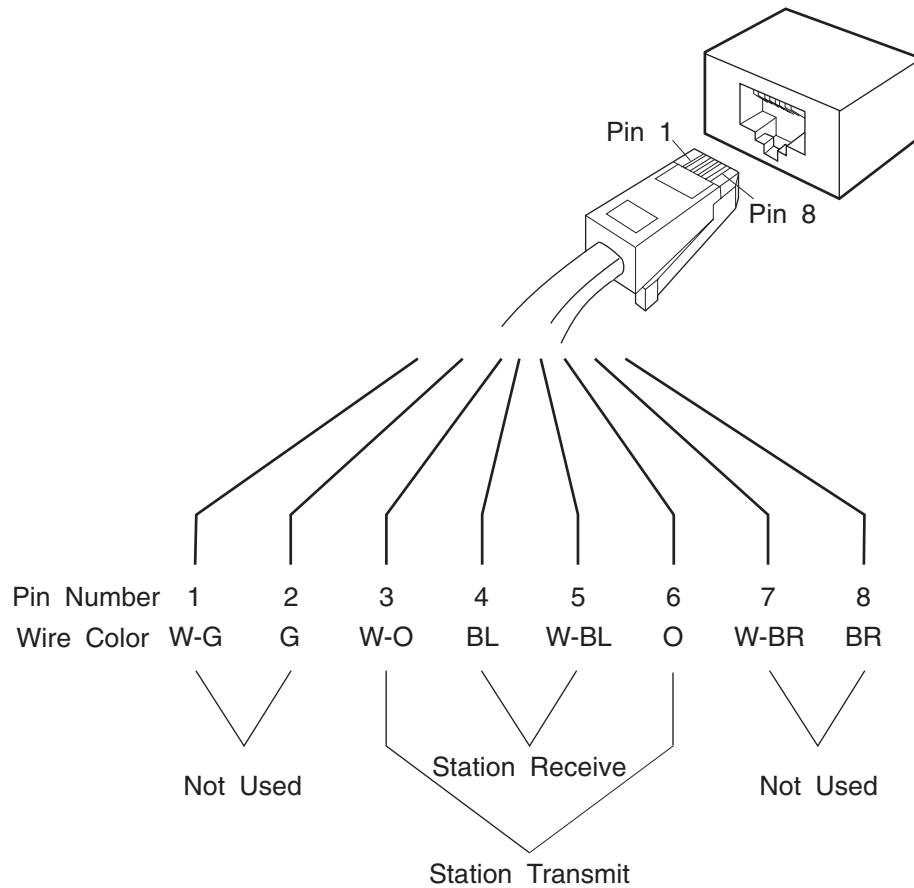

Figure 29. Twisted-Pair 8-Pin Connector
Refer to Figure 29 on page 98 for the pin layout of the 8-pin modular connector. Connection of the token-ring UTP media filter to a token-ring multistation access unit is through an attachment cable meeting the following specifications:
- 8-pin modular telephone plugs at each end (optional shielding) meeting or exceeding requirements for category 5 cable connections (refer to Figure 29 on page 98 for pin layout). If the cable and connector are shielded, the cable shield must terminate on the connector shield. Note that the connector pins must not be used to terminate a cable shield.
Attaching cables must use the 802.5 standard pin layout. Cables must be terminated with an 8-pin jack. Figure 29 on page 98 illustrates the proper pin configuration for the cable from the rear.